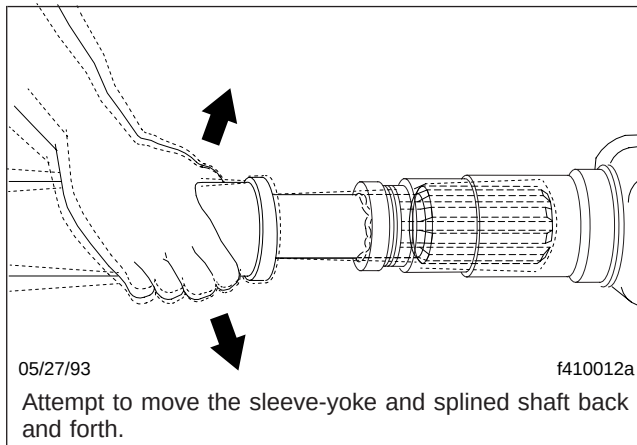

Fig. 4, Slip Joint Spline Wear Checking
6. Check slip joints for spline wear by moving the sleeve-yoke and splined shaft back and forth. See Fig. 4. If the slip joint can be twisted in a clockwise, or counterclockwise movement